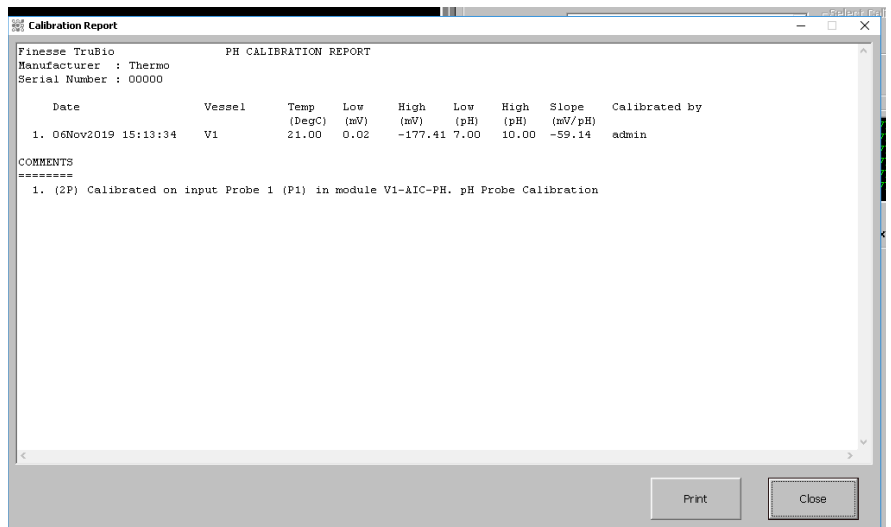

Figure 3.16. Calibration saved confirmation window.
- The **Calibration Report** window will display the detailed calibration history for the probe (Figure 3.16). Once written into the file, records cannot be modified or deleted.